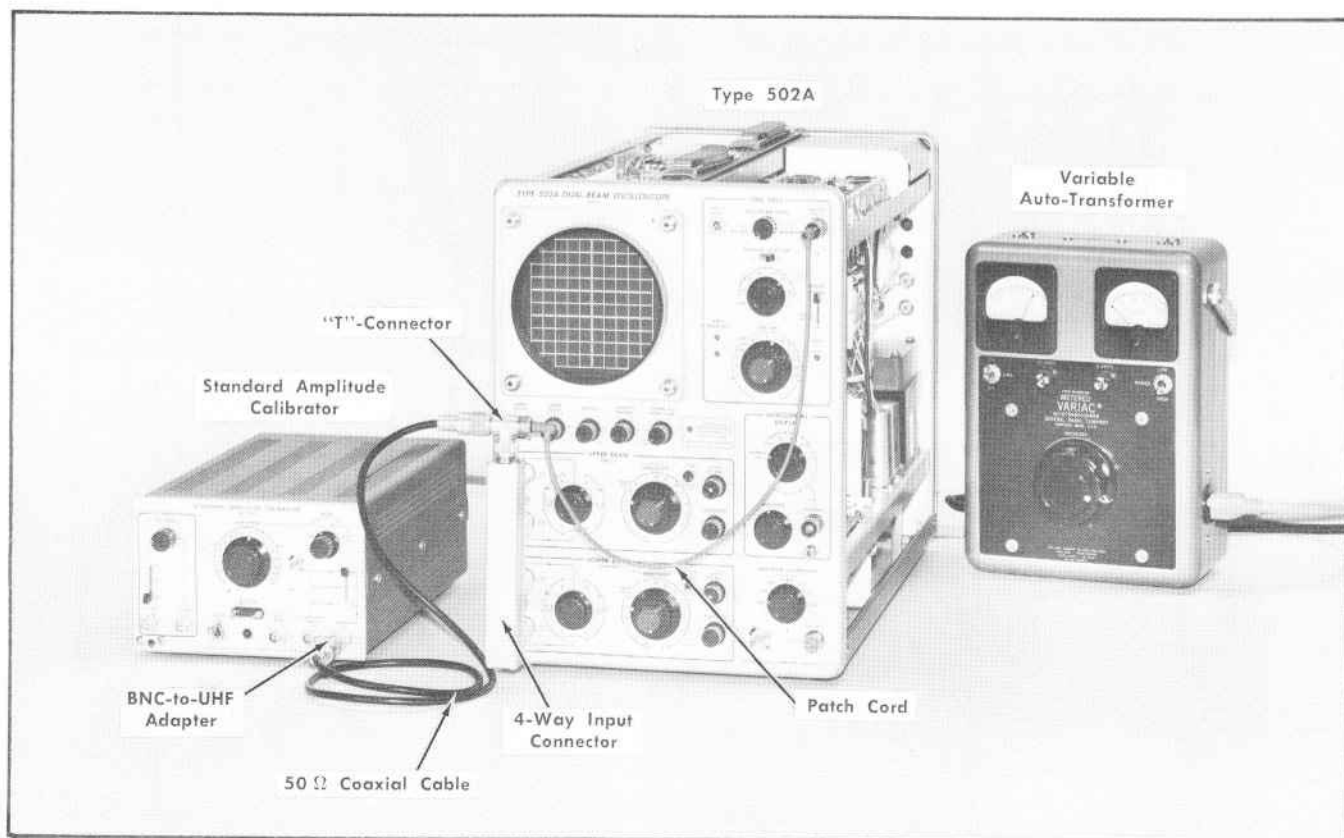

Fig. 6-37. Test equipment setup for checking external triggering (step 35).
- Set up the equipment as shown in Fig. 6-37.